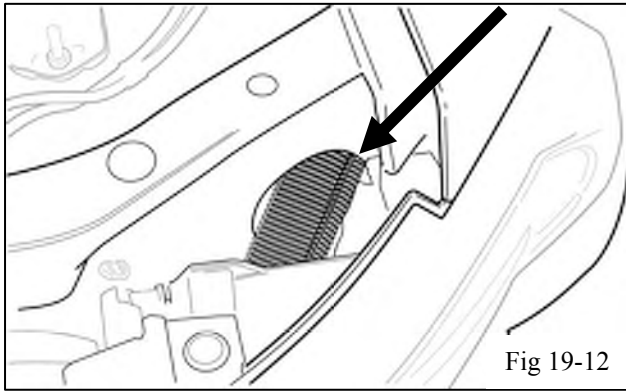
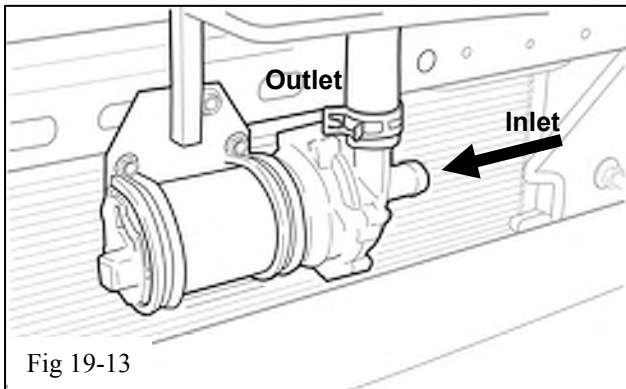

Fig 19-12
Fig 19-13
(n) The hose assembly from the previous step will be routed from the outlet of the reservoir (Fig 19-11), along the inner fender panel behind the fuse box and battery, through a hole in the radiator side support (Fig 19-12), and to the pump inlet (Fig 19-13). Connect the short leg to the reservoir outlet with a #10 screw clamp (H6). **HINT: It is easier to route the hose if you unbolt the fuse box and temporarily move it inboard a little.**
- (o) Trim the hose to length and secure it to the pump inlet with a wide band spring clamp (H3) (Fig 19-13). Keep the trimmed hose length for the next steps.
- (r) This new hose assembly will be routed from the intercooler inlet (Fig 19-15), behind the brake master cylinder (Fig 19-16), along the inner fender panel, through the hole in the radiator side support (Fig 19-12), and to the LTR outlet (Fig 19-16).